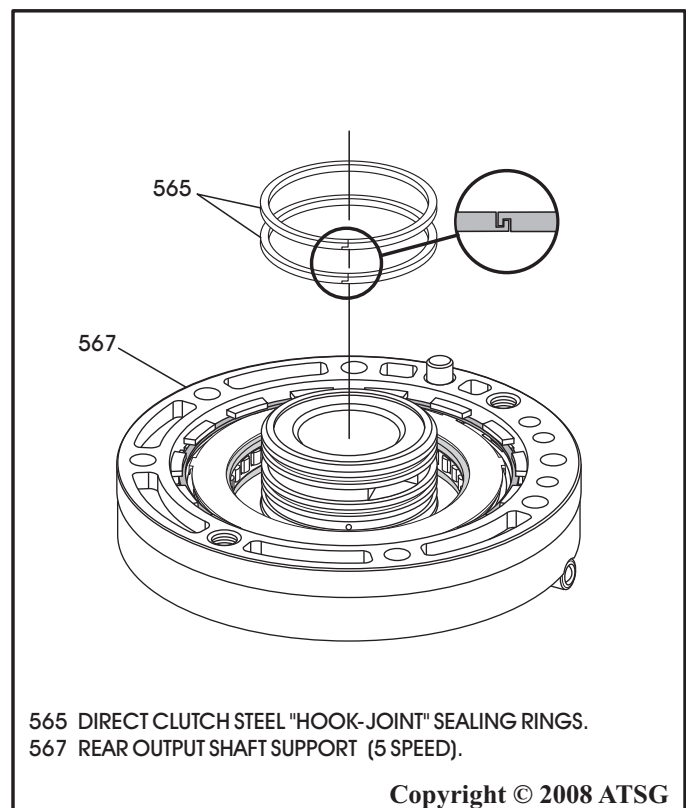

Figure 152
12. Install the two direct clutch, steel, hook-joint sealing rings, as shown in Figure 152.